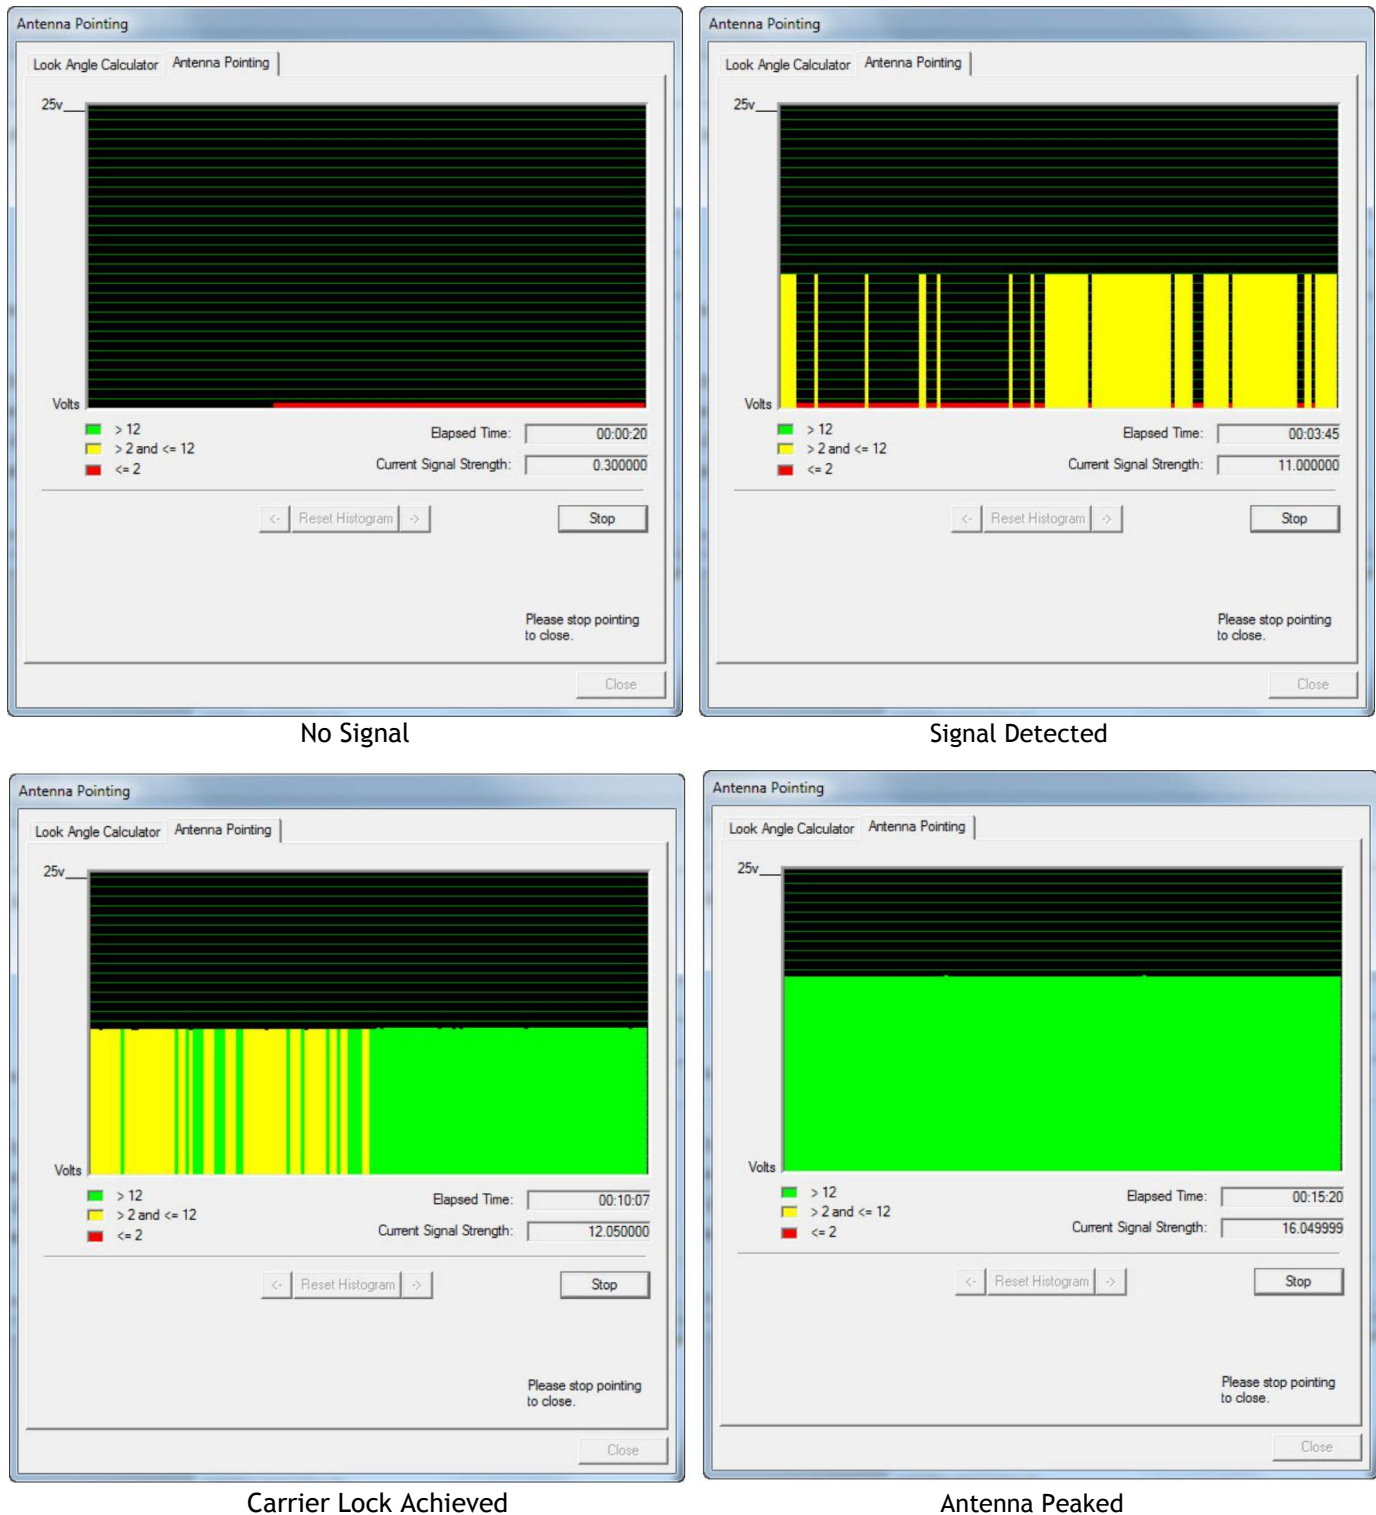

Figure 23. Antenna Pointing Histogram and Current Signal Strength
6. Verify that the BUC voltage is disabled by observing the voltage drop on the voltmeter. With no received signal, DC voltage drops to zero for about ten seconds, until the PWM and histogram display start. After that, the voltmeter indicates approximately 0.4 V of PWM output. See Figure 23.
7. Return the antenna azimuth to the position marked during course alignment. Slowly sweep the reflector a few degrees either side of the course azimuth while observing the peak indicators. The signal trace of the histogram progressively turns from red, to yellow, and then to green as downstream carrier signal strength increases. See Figure 23.